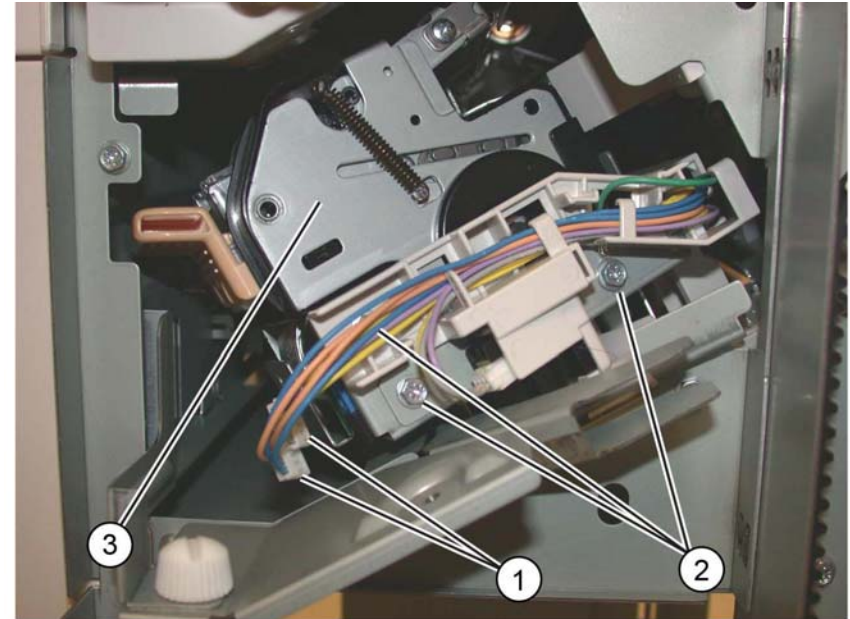

Figure 2 Finisher stapler assembly removal
4. Remove the finisher stapler assembly, Figure 2:
- a. Disconnect the connectors (1).
- b. Remove three screws (2).
- c. Remove the finisher stapler assembly (3).